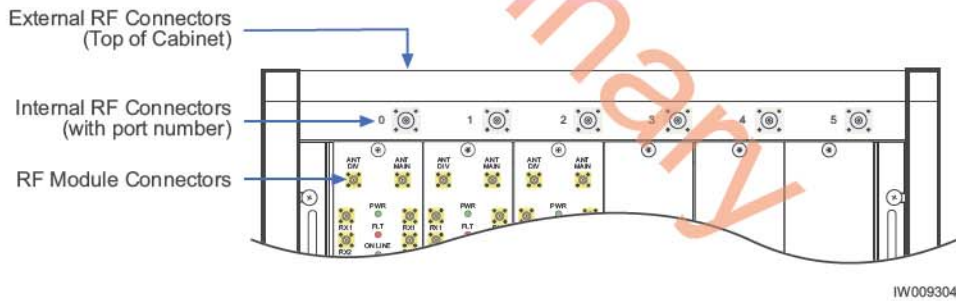

Figure 2-27: Antenna Cabling for Standard BTS Configurations
For the 15 watt, 25 watt, 40 watt, 50 watt Omni 1 TRX (01) configurations, connect your antennas as shown in Figure 2-27.